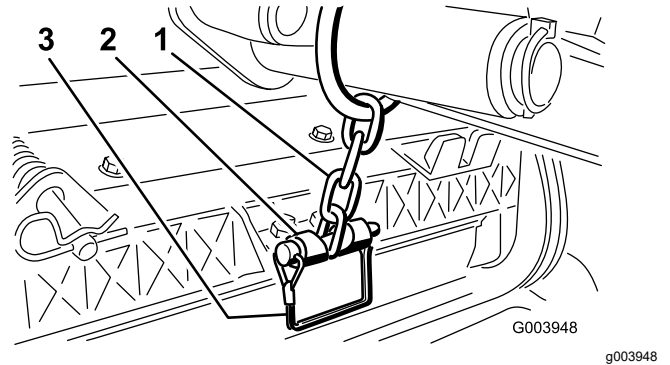

Figure 12
Note: Use the slot if a steering cutting unit is desired or use the hole if the cutting unit is to be locked in position (Figure 12).
14. Secure the lift-arm chain to the chain bracket with the snapper pin (Figure 12).